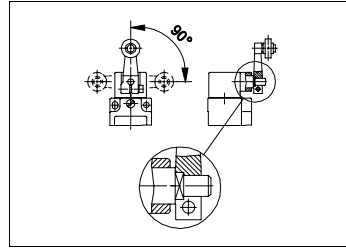

Fig. 1: Vertical actuator reversal
- Mount the turning lever in such a way that the square drive shaft interlocks with the square turning lever (see Fig. 1).